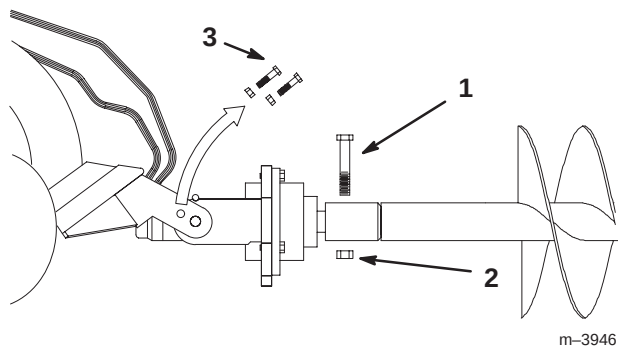

Figure 5
8. Secure the auger to the drive head with the 7/8"–9 x 4-1/2" bolt and 7/8"–11 nut (Fig. 5).
9. Remove the bolts and nuts from the cradle arms that were installed in step 3 (Fig. 5).